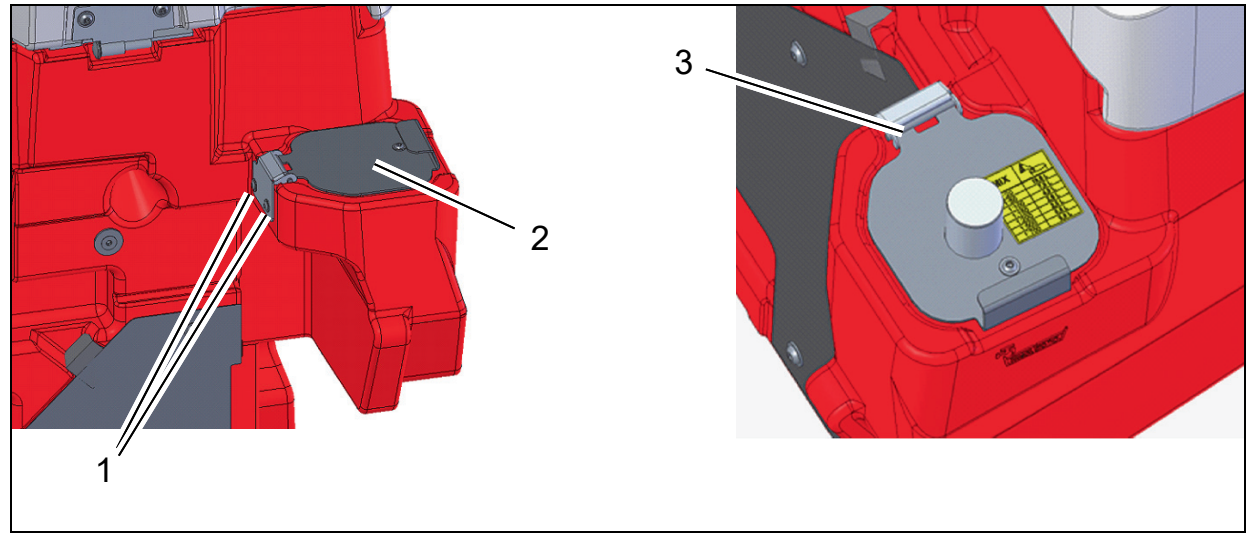

Fig. 3
2. Undo both bolts at the hinge (Fig. 3/1).
3. Slide the hinge slightly upwards and remove the existing cover (Fig. 3/2).
4. Hook the new cover into the hinge (Fig. 3/3), slide the hinge downwards and re-tighten the bolts.